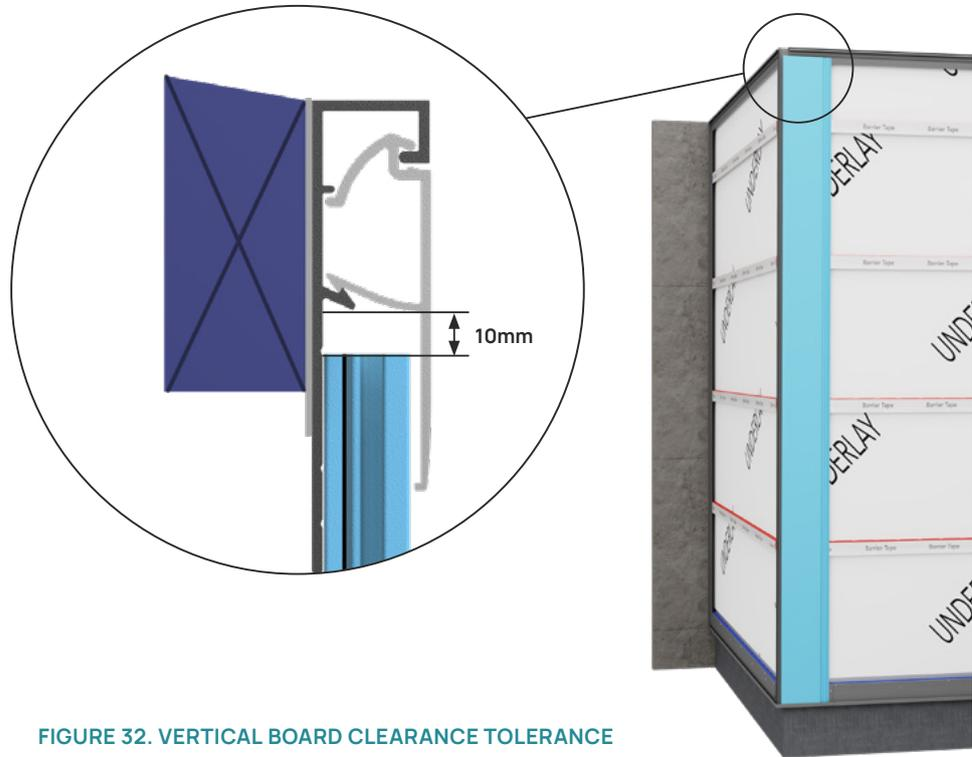

FIGURE 32. VERTICAL BOARD CLEARANCE TOLERANCE
3. Cut the first board to length. The required length is from bottom of the base channel up to 10mm below the top of wall base flashing engagement hook. The resulting clearance (approx. 10mm) is your thermal expansion tolerance. - See figure 32.